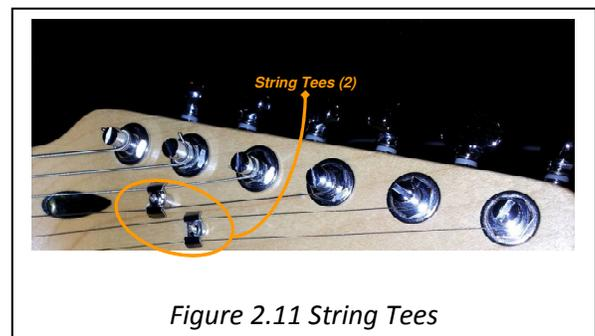

Figure 2.11 String Tees
The two (2) holes required for the installation of String Tees (2), Figure 2.11, will be during the guitar final assembly.